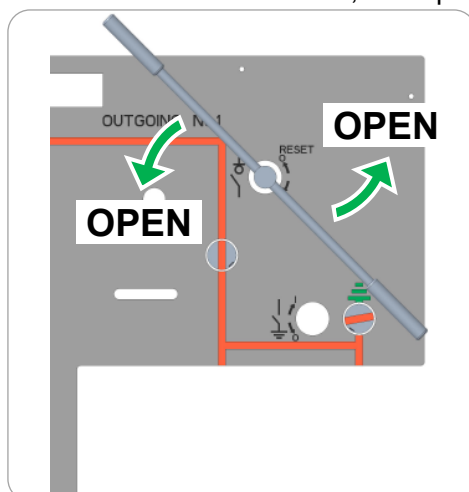
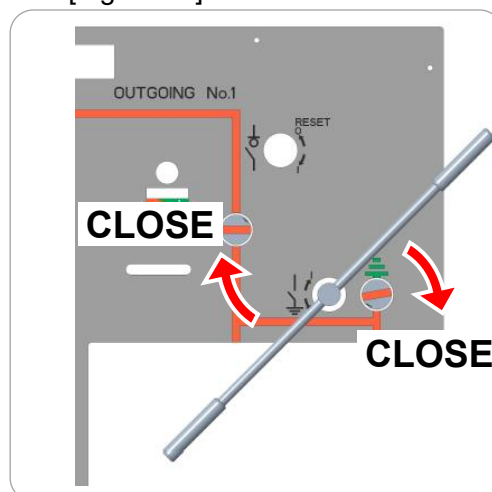

Figure 21. LBS OPEN operation
Figure 22. Earthing SW CLOSE operation
- ① OPEN the LBS of transformer feeder [Figure 21] and CLOSE the earthing SW [Figure 22] to unlock the mechanical interlock of fuse compartment cover.